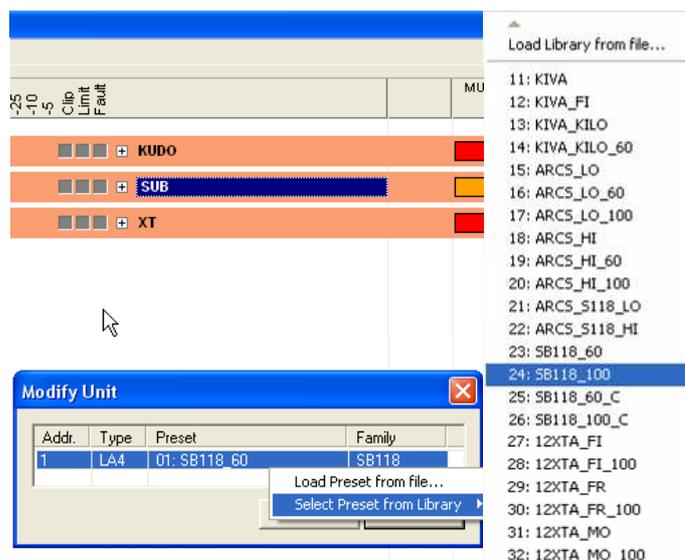

Figure 18: Selecting a preset from the LA4 Library
1. Left-click on this function: a new window is displayed (see Figure 18).
1. Left click on this function: a new window is displayed (see Figure 18).